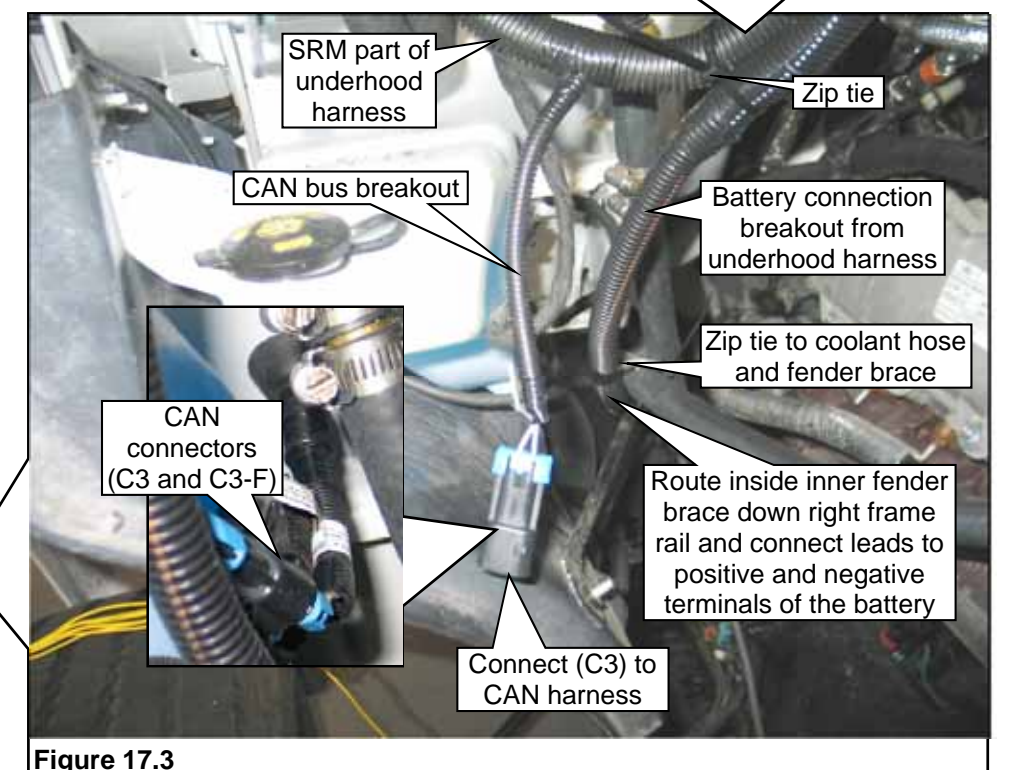

Figure 17.3
5. Route battery connection breakout of underhood harness down between inner fender and fender brace and then, down right frame rail to battery box location. Zip tie to SRM breakout of underhood harness. Make the positive (T1 and T2 power #1 and #2 ring terminals) and negative (T3 ground ring terminal) connections to the battery positive and negative terminals. Route the underhood/CAN inline connector down to the CAN harness connector (C3) and make the electrical connection. **Figure 17.3.**